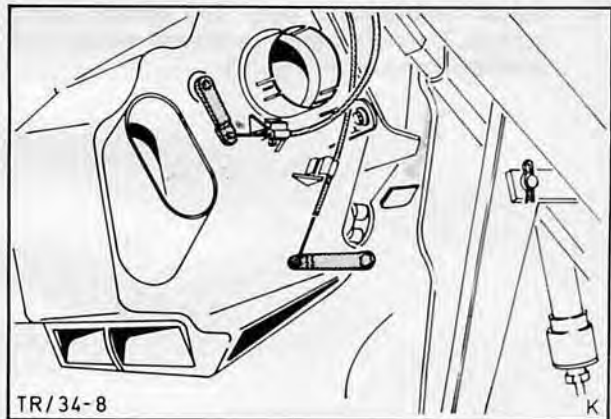

Fig. 8. Detach bowden cables from heater housing and air flap valve levers
2. Detach bowden cables from heater housing (2 screws) and unhook cables from air flap valve levers, Fig. 8.